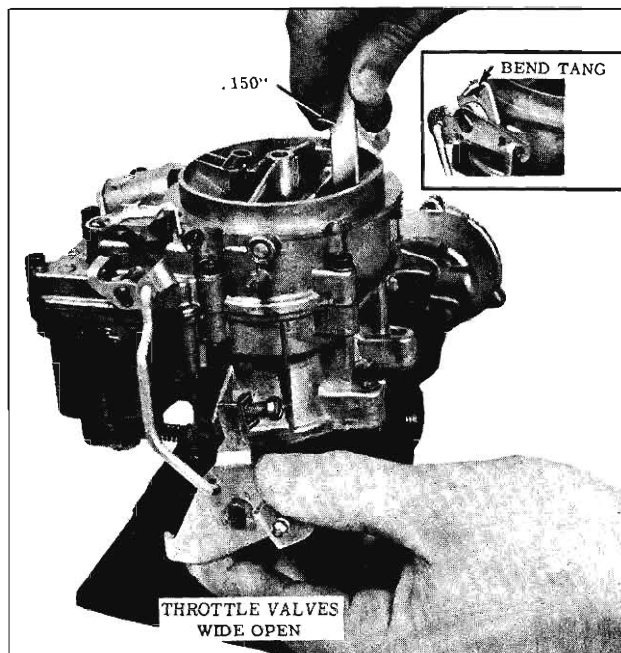

Fig. 4-51 Unloader Adjustment
1. With throttle valves held wide open, check clearance between the top edge of the choke valve and the air horn. (Fig. 4-51)